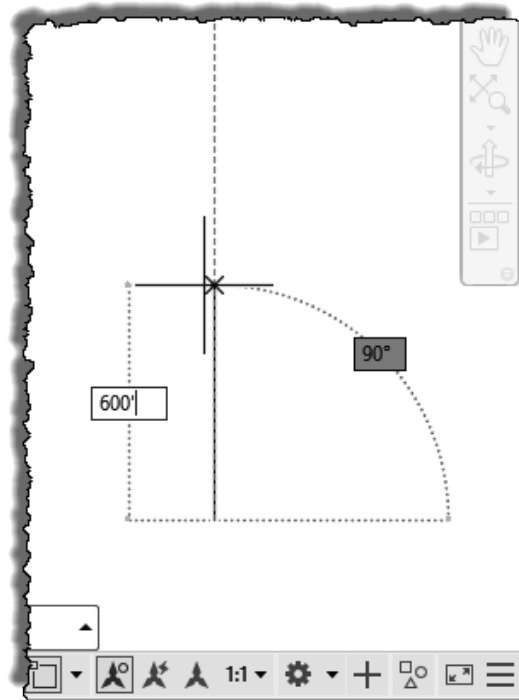

FIGURE 2-1.11 Drawing another line with the help of Polar Tracking
20. Move the crosshairs (i.e., mouse) straight up from your first point so that *Polar Tracking* activates (Figure 2-1.11).